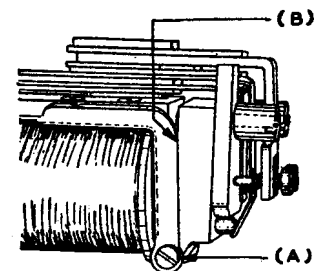

Fig. 2 - 366 Type Relay
1.09 *Armature Movement* — Fig. 2 (A): Move freely on its pivot screws.
1.10 *Clearance Between Armature and Yoke* — Fig. 2 (B): Armature to clear sides of yoke approx. $.010''$.